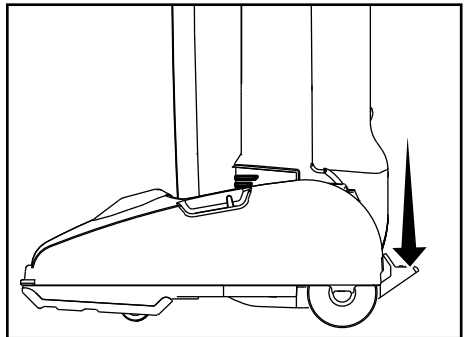

Fig. 2
- Press the Handle Release Pedal with your foot to recline the handle (Fig. 2).